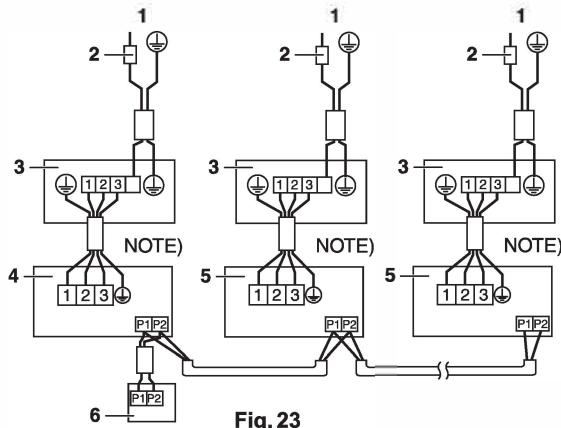

Fig. 23
- 1 remote controller controls up to 16 indoor units (All indoor units operate according to the remote controller). (Refer to Fig. 23)